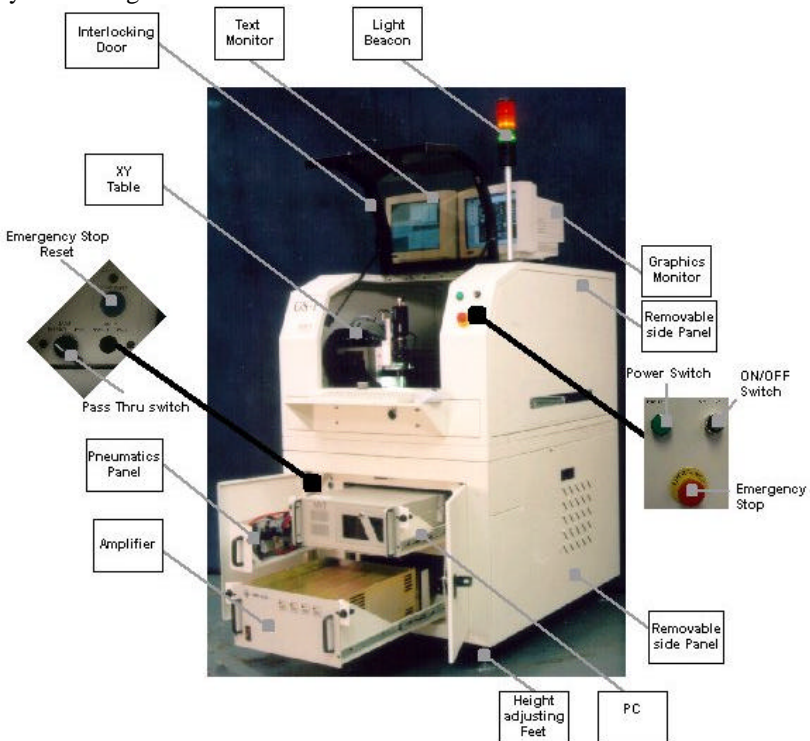

Fig 2.2 System Front View
2. Press the E-Stop reset switch as shown in the diagram Fig 2.2 'System Front View'.
The base frame houses the Industrial PC, the pneumatics panel and motor controller on three sliding drawer units which allow easy access to the rear of these units. These units are then protected behind the front access doors, which are lockable. The emergency stop reset switch and the pass-through/inspect switch are also mounted behind these doors, see fig 2.2.
The systems top frame gives access to the machine internals primarily through the top frame polycarbonate window. Further access is possible through the left and right upper panels, the rear upper panel and finally the roof panel. The entire top frame can also be separated from the base frame if further access is required. The systems top frame also provides for the mounting of the control interface, see Fig 2.2